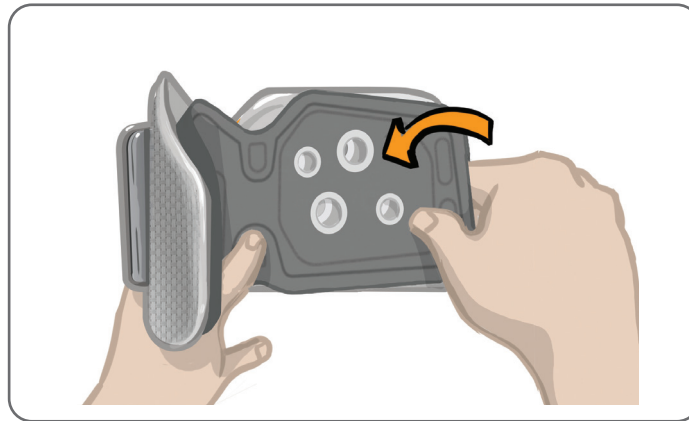

Figure 6-4: Attaching the Personal Panel
1. For the Regular Personal Panel, align the panel over the four buttonholes on the Regular Lower Leg Cuff. See Figure 6-4.